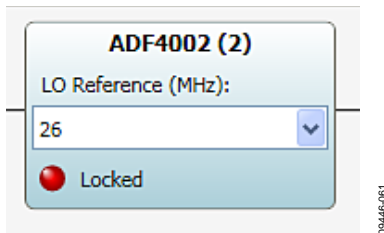

Figure 61. ADF4002 (2) Control
The ADF4002 (2) control, shown in Figure 61, includes a drop-down menu for the **LO Reference (MHz)**. This is chosen to indicate which VCXO is installed on the board. By default, the MSDPD Dashboard uses the 26 MHz VCXO. There is also a PLL lock indicator for the ADF4002 (2).